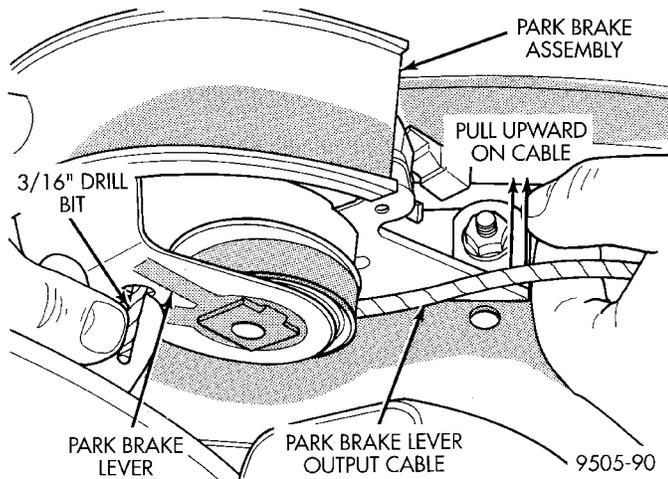

Fig. 137 Locking Pin Installed In Park Brake Mechanism
(5) Lower park brake lever handle.
(6) Grasp park lever output cable by hand and pull rearward (Fig. 137). Continue pulling on cable until a 3/16 in. drill bit can be inserted into handle and sector gear of park brake mechanism (Fig. 137). This will lock the park brake mechanism and take tension off park brake cables.